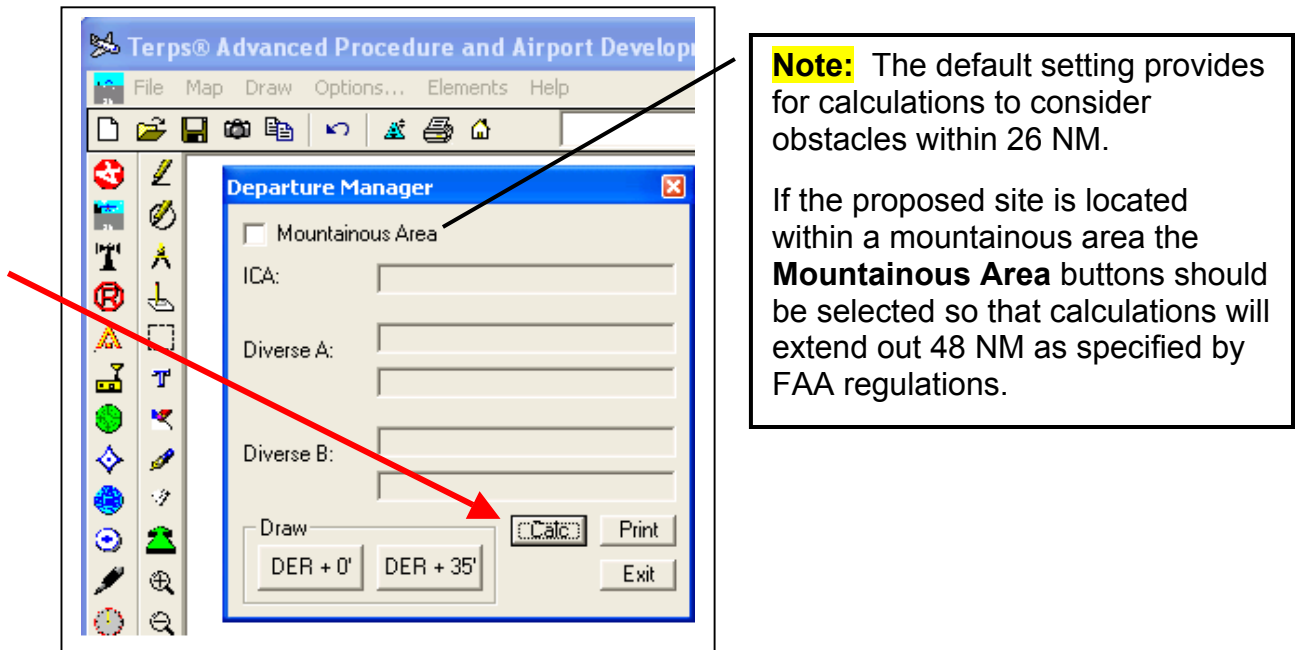

Figure 8-3: Departure Manager Window
4. The Departure Manager Window will open (see Figure 8-3.)